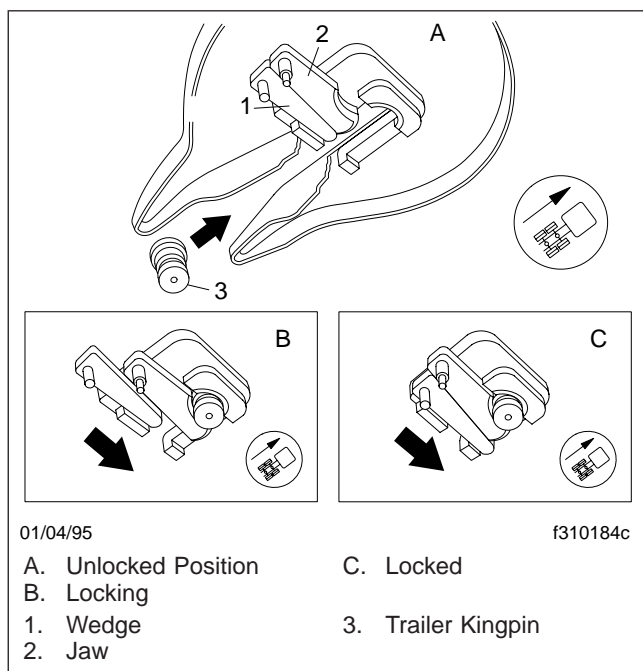

Fig. 10.18, Fontaine Kingpin Lock Mechanism
Fifth Wheel Lock Mechanism for Trailer Kingpin (See Fig. 10.18)
During coupling (Fig. 10.18), the motion of the kingpin entering the jaw will actuate the jaw and wedge. The jaw will move behind the kingpin, followed by the wedge. The purpose of the wedge is to reinforce the jaw and take up slack around the pin. Any wear on the jaw is immediately taken up by the wedge so there is no slack in the connection.
- Position the tractor so that the fifth wheel lock opening is in line (both vertically and horizontally) with the trailer kingpin. The kingpin should be in a position to enter the throat of the locking mechanism, as shown in **Fig. 10.18**. Adjust the trailer landing gear to give enough alignment height for positive kingpin lockup.